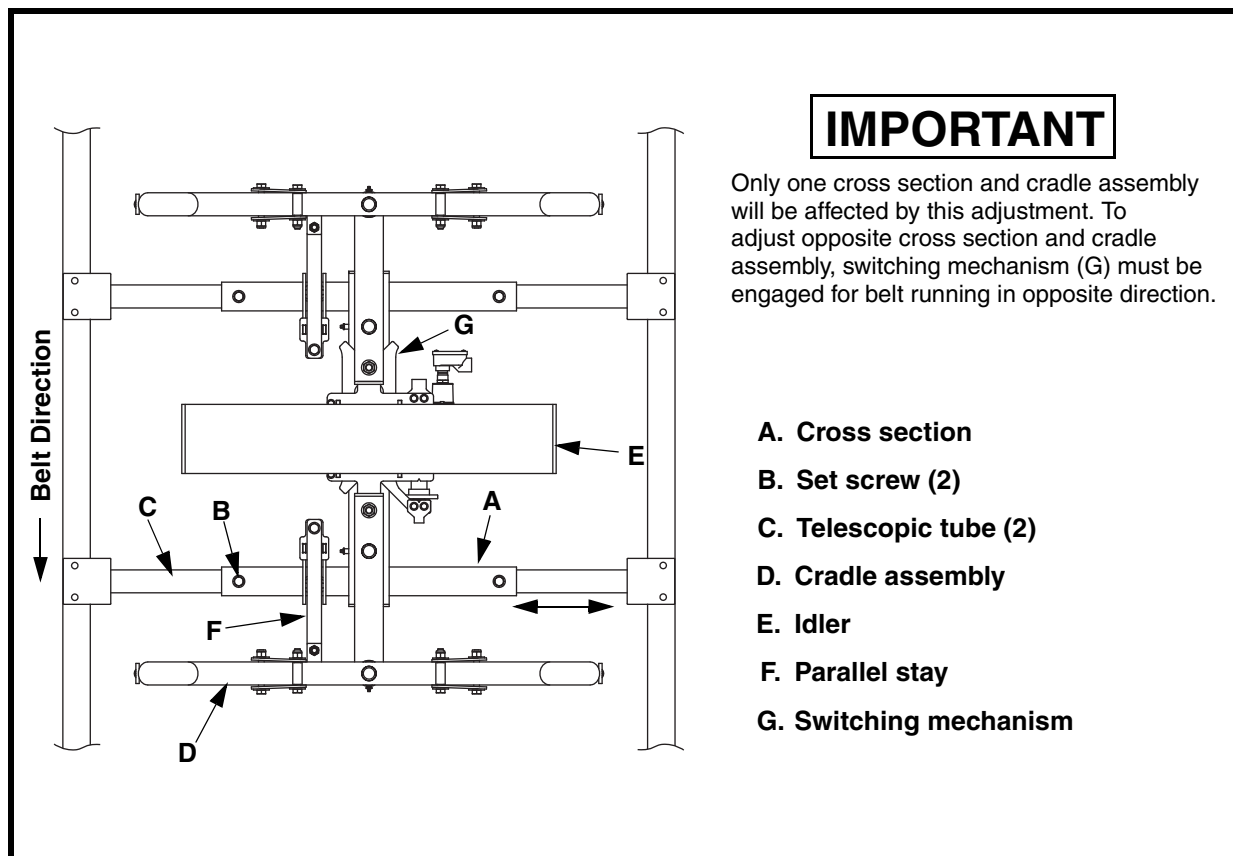

Figure 8. Adjusting Martin® Tracker™ Reversing
6. See Figure 8. If necessary, adjust cross section (A) to fine tune belt tracking:
- a. Loosen set screws (B) securing cross section on telescopic tubes (C).
- b. Slide cross section on telescopic tubes in the direction belt needs to move as necessary for proper adjustment of cradle assembly (D) and idler (E). (Parallel stay (F) will move cradle assembly.)